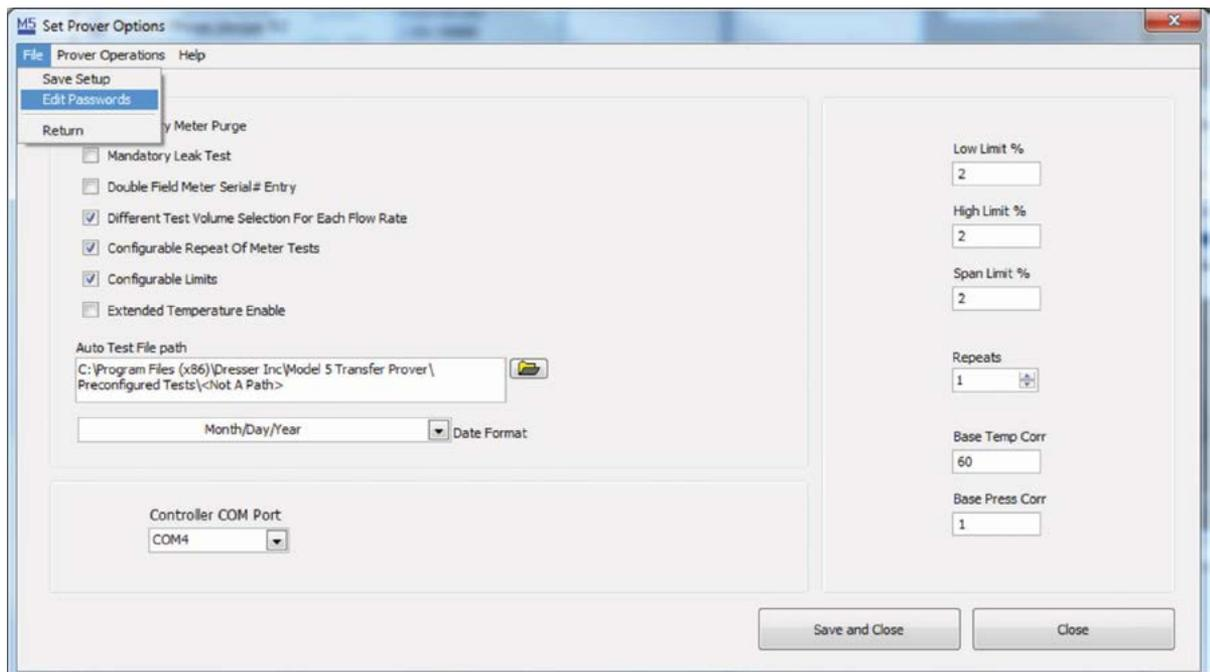

Figure 70: Edit Password Selection
3. In the “Set Prover Options” screen, select “File” and “Edit Passwords” as shown in **Figure 70**.